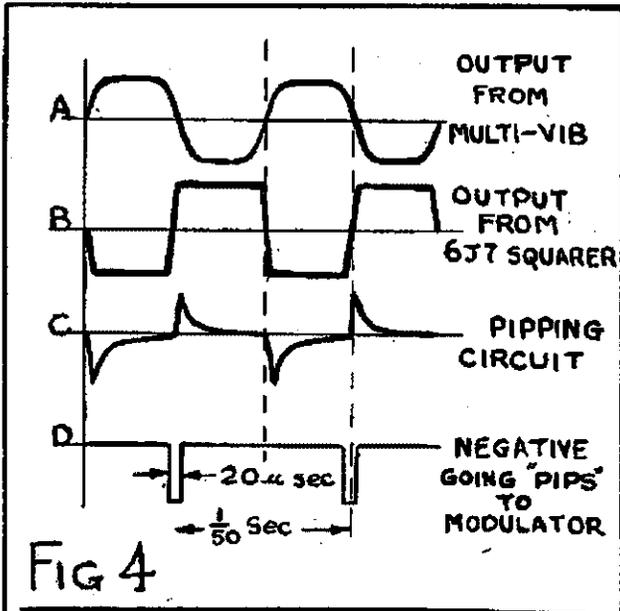
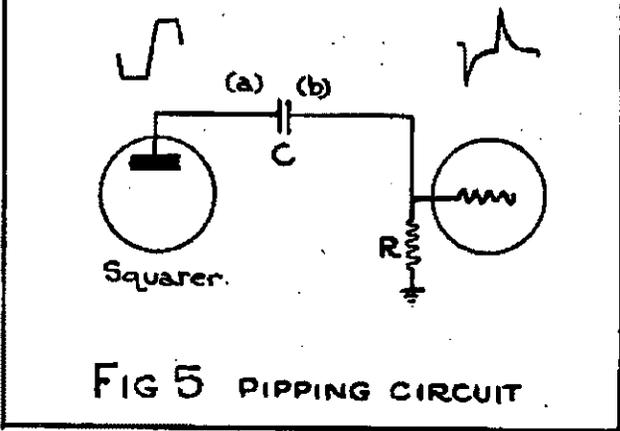

FIG 4
FIG 5 PIPPING CIRCUIT
The output from the Multi-Vi. is rich in harmonics and has a more or less square wave form. To make it even more square, the output is passed through a further 6J7 which is heavily overloaded, the result of which is that on the negative peak cut-off is soon reached and no further change in output current can be possible. On the positive peak, saturation takes place so that both top and bottom of the wave are flattened. The amplification makes the sides slope more steeply. A glance at the wave forms of Fig. 4 will enable this to be seen more clearly.
The negative going wave form from the squarer charges up side (a) of Condenser C (Fig. 5) and holds it steady at full potential until the wave form changes. In the meantime, side (b) has been allowed to discharge through Resistor R in the familiar exponential curve. When the polarity changes, side (a) again follows and is held positive, side (b) again discharging immediately the charging voltage becomes steady. Referring back to (c) of Fig. 4 should make this clear.
The next valve, an 807, is heavily biased so that only the portion shown dotted has any effect on the grid. The output fed to the modulator is as shown (d) of Fig. 4. So much for the pulse forming circuit.
There are numerous ways in which we can construct our unit to comply with the circuit requirements of figure 5; however, in planning any lay-out we must bear in mind all those points discussed in earlier sections.
- (ii) By referring to Figure 5, the reader will observe that the Variable Capacitor associated with the V.F.O. is connected to pin 4 of the socket. Thus, if normal pre-tuned tank unit is inserted into this socket, the Variable Capacitor will not be connected into the circuit, and this position may be used as a pre-tuned point.